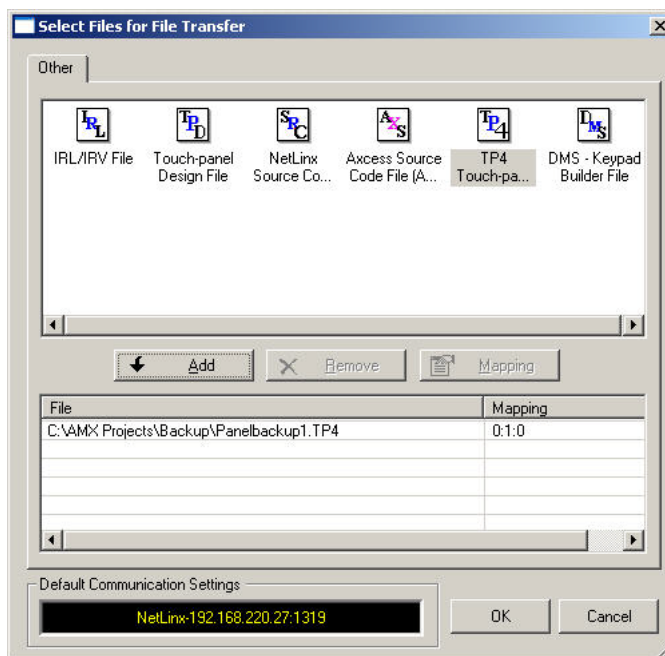

**FIG. 8** Enter Device Mapping Information dialog
6. In the *Enter Device Mapping Information* dialog, enter the **Device**, **Port** and **System** numbers for the source Touch Panel (FIG. 8).
The Enter Device Mapping Information dialog (FIG. 8) contains three fields: *Device Number*, *Port Number* and *System Number*. Since you are already communicating with the NetLinx Master, the only value that is required here is the **Device Number**.